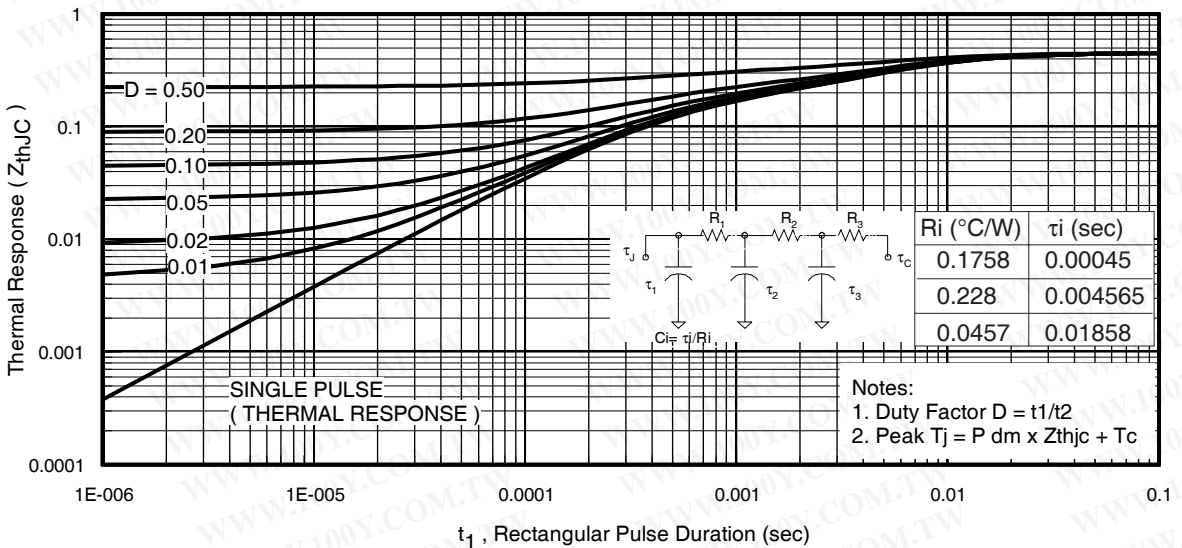
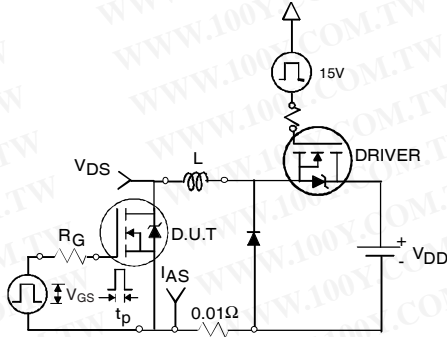

Fig 11. Maximum Effective Transient Thermal Impedance, Junction-to-Case
Fig 12a. Unclamped Inductive Test Circuit
- ① Repetitive rating; pulse width limited by max. junction temperature. (See fig. 11).
- ② Limited by T_{Jmax} , starting $T_J = 25^\circ\text{C}$, $L = 0.17\text{mH}$, $R_G = 25\ \Omega$, $I_{AS} = 75A$, $V_{GS} = 10V$. Part not recommended for use above this value.
- ③ Pulse width $\leq 1.0\text{ms}$; duty cycle $\leq 2\%$.
- ④ $C_{oss\ eff.}$ is a fixed capacitance that gives the same charging time as C_{oss} while V_{DS} is rising from 0 to 80% V_{DSS} .
- ⑤ Limited by T_{Jmax} , see Fig.12a, 12b, 15, 16 for typical repetitive avalanche performance.
- ⑥ This value determined from sample failure population. 100% tested to this value in production.
- ⑦ R_θ is measured at T_J of approximately 90°C .
3. Equation below based on circuit and waveforms shown in Figures 12a, 12b.
$Z_{thJC}(D, t_{av})$ = Transient thermal resistance, see figure 11)